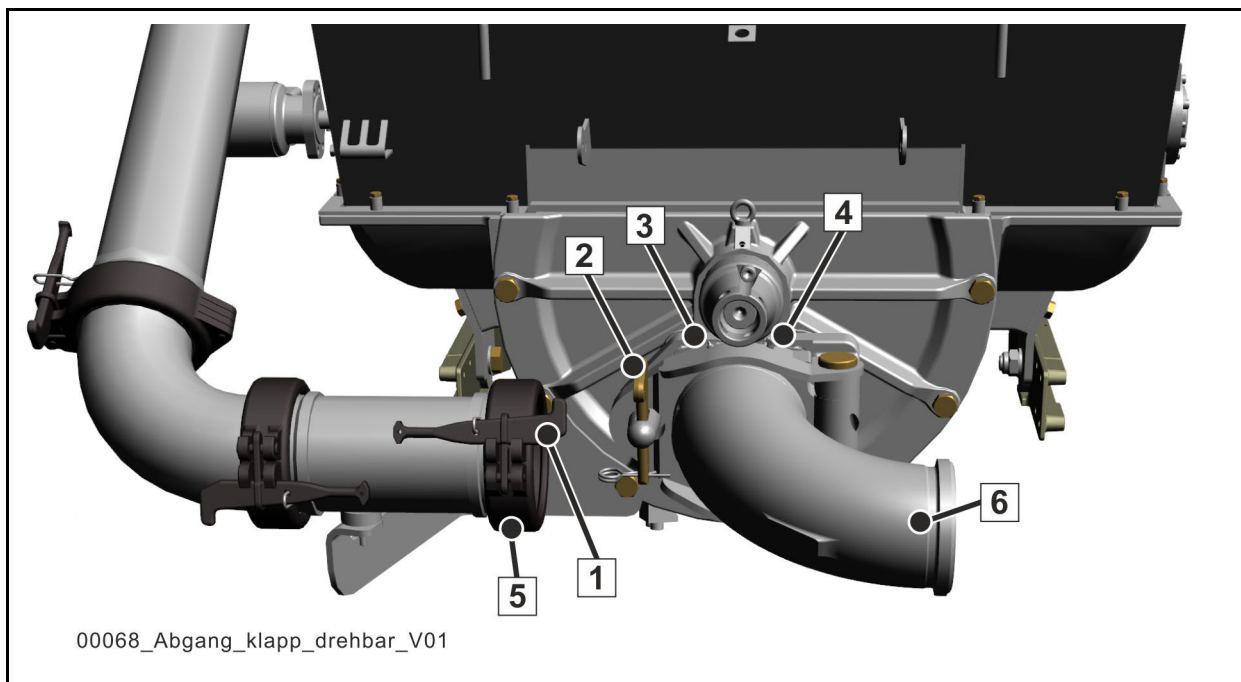

Fig. 176 Outlet, foldable and rotatable
In order to connect a separate pumping line more easily, certain SCHWING truck-mounted concrete pumps can be optionally equipped with a foldable and rotatable outlet (6; (Fig. 176)).
- 1 Pull the clip pin and remove the wedge (1) and coupling (5) first
- 2 Pull the clip pin and remove the wedge (2)
- 4 Loosen both the safety screw (4) and the second safety screw offset by 180° by approx. half a rotation
- 5 Rotate the foldable and rotatable outlet into the required position (e.g. 6; **(Fig. 176)**) and fold it back
- 6 Reinsert the wedge (2), but do not hammer it in place yet
- 7 If necessary, correct the position of the foldable and rotatable outlet and then hammer the wedge (2) down. Secure the wedge using the clip pin.
- 8 Reattach the upper and lower safety screws (4) Connect a separate pumping line.